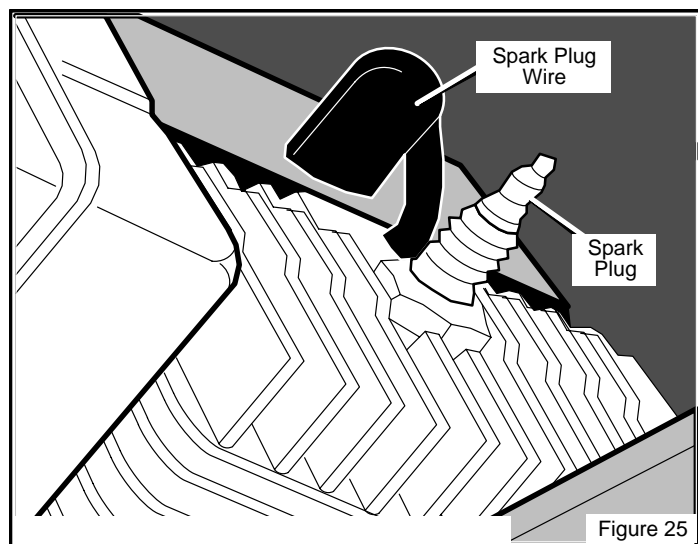

Figure 25
3. Disconnect the **spark plug wire** (see Figure 25).